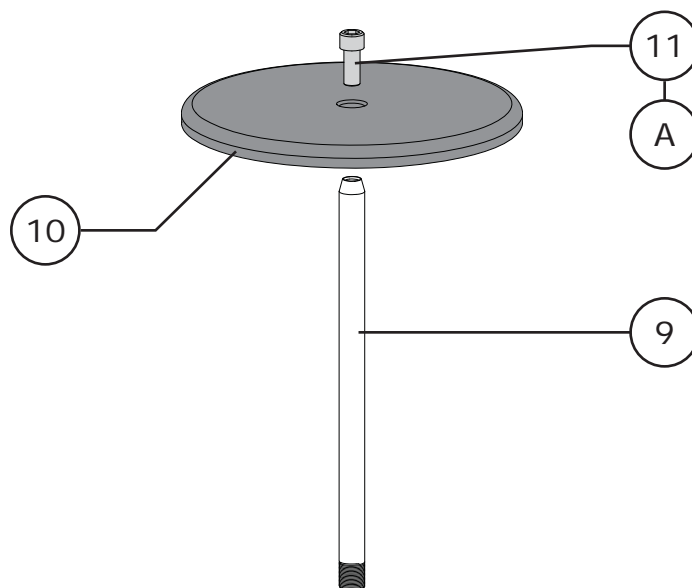

Figure 16 Diaphragm Plate/Actuator Stem Disassembly
- 2 Place the diaphragm plate (Key 10) on top of the actuator stem (Key 9) as shown in Figure 16.